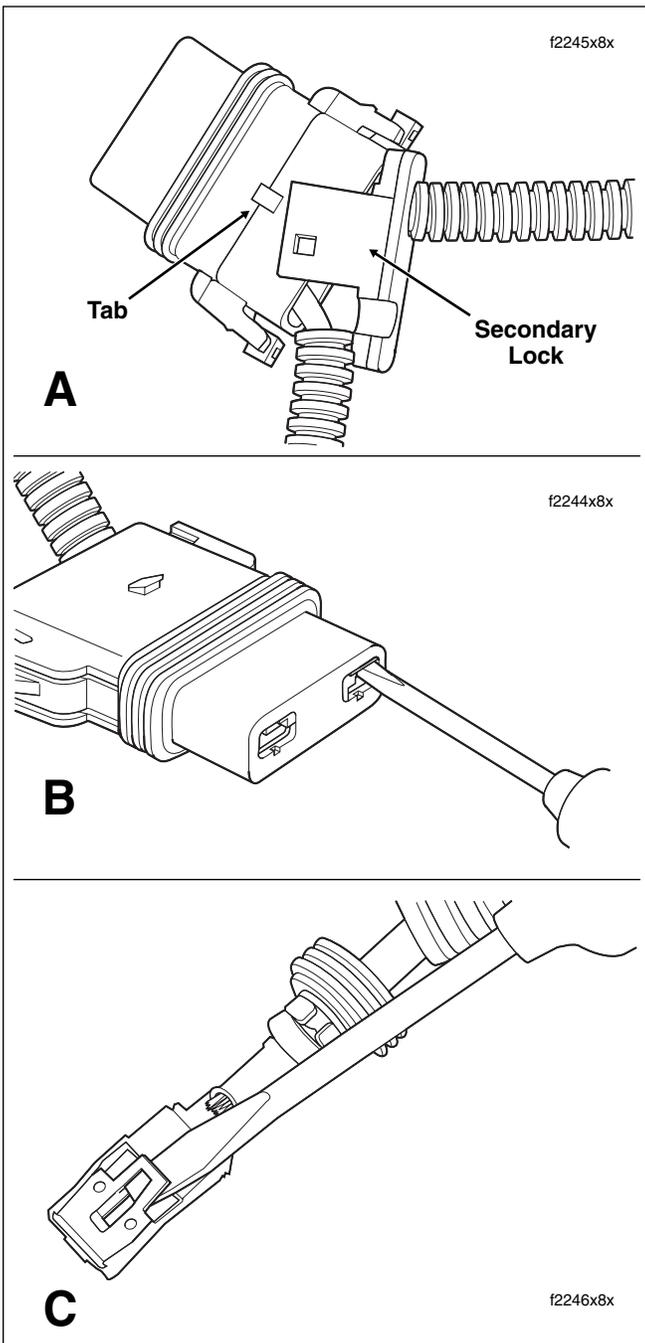

Figure 8-25. Remove Socket Terminals
- a. Gently pull socket housing to disengage slots from tabs on socket housing. See A of Figure 8-25. Free secondary lock from cables and set aside.
- b. Take note of the opening on one side of the socket terminal. Gently insert flat blade of pick (Snap-On TT600-5) or small screwdriver into opening until it stops. Pivot the pick toward the terminal body and hold in position. See B of Figure 8-25.
- a. Carefully bend tang outward away from the terminal body. See C of Figure 8-25.